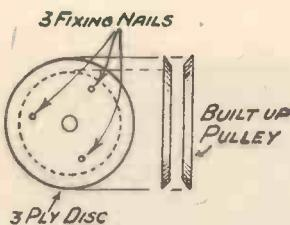

Fig. 5.—Details of the Pulleys.
**The Pulleys.**—These are made out of plywood. Three pairs of discs will be required, measuring  $2\frac{1}{2}$  in., 2 in., and  $1\frac{1}{2}$  in. radius respectively. They must be bevelled and fixed to form the pulleys, and then drilled centrally to take a stout-shanked screw for a bearing (see Fig. 5).